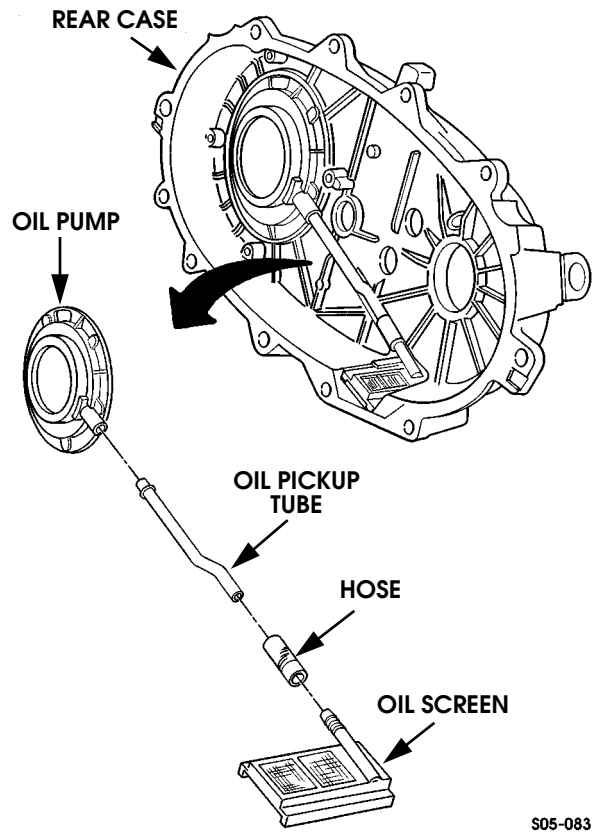

Figure 5-91: Oil Pump Assembly Removal
9. Remove oil pump, pickup tube, hose, and screen (Figure 5-91).